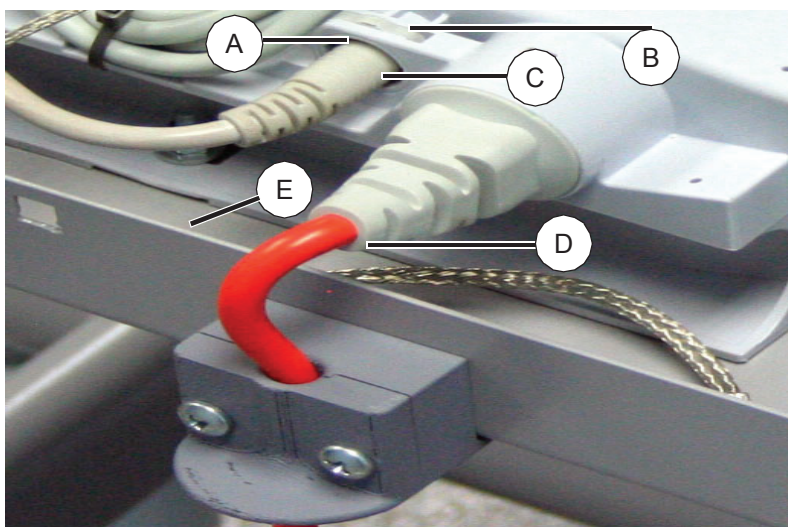

Figure 8: Control box & battery connector
- 9.1.2 Refer to Figure 8. Insert a small flat bladed screwdriver into the slot (A) on the side of the control box (Fig , Item 6) to release the retainer clip. Pull the clip out as shown (B) and disconnect the battery cable (C) from the control box.
- 9.2.2 Refer to Figure 8. Connect the battery cable (C) to the control box (Fig , Item 6), making sure the plug is pushed fully into the socket. Push down the retainer clip (B) to hold the battery cable in place. Make sure that the battery cable cannot be accidentally pulled out of the control box.
- 11.2.2 Connect the earth bonding cable (Fig , Item 8) to the control box earth terminal (Fig 8, Item D) and secure it with the two fixing nuts; the upper nut locks the lower one to prevent it becoming loose.